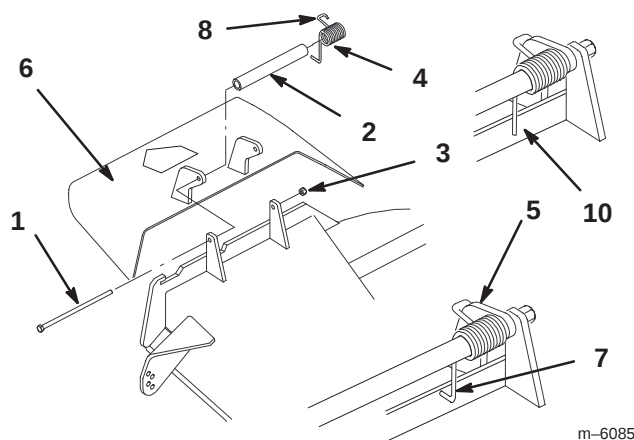

Figure 27
The grass deflector spring will have either an **L** end or a straight end (Fig. 27).
**Note:** Make sure the **L** or the straight end of spring is installed behind deck edge before installing the bolt as shown in figure 27.
2. Install bolt and nut. Place **J** hook end of spring around grass deflector (Fig. 27).